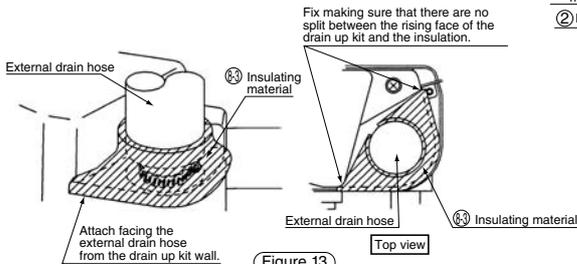

Figure 13
- (3) Put the attached insulating material ⑥ to the external drain hose connector, as shown in (Figure 13).